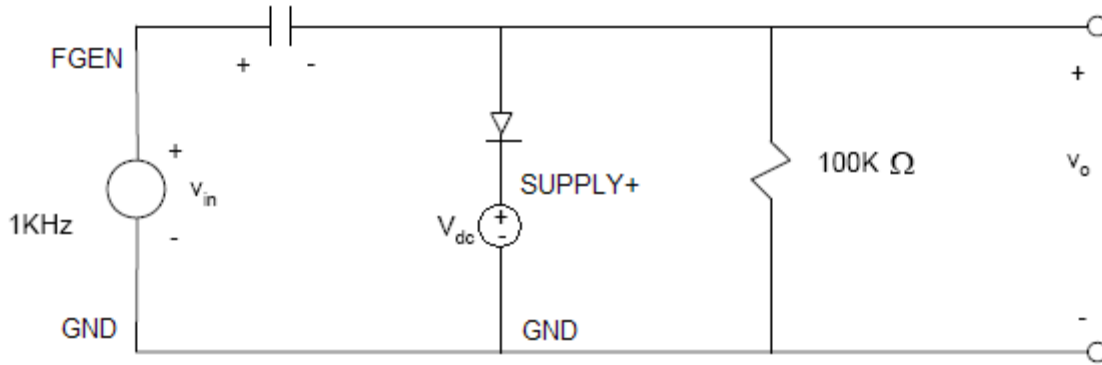

Figure 4.8: Clamping circuit
Build the circuit shown in Figure 4.8 and make an accurate sketch of the input and output waveforms for a $8V_{p-p}$ sine wave input voltage for each of the following conditions. **Each condition should be relative to the circuit as shown in Figure 4.8.** Be sure to record the peak values of both waveforms on your sketch. A capacitor larger than $22\ \mu F$ will work in this circuit. **Set the coupling of both oscilloscope channels to DC.**
- 4. Clamper — Build circuit (Figure 4.8)